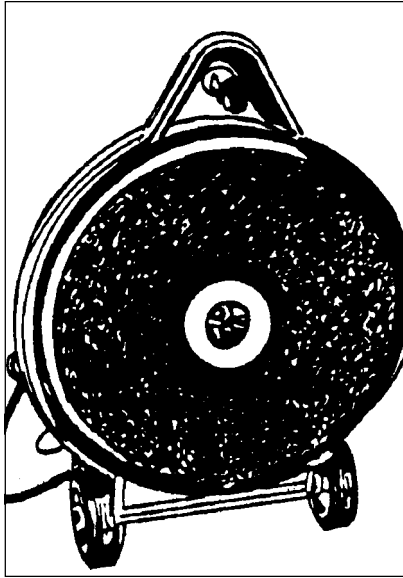

Figure 6
9. Tilt the machine on its back so that it sits on its rear wheels and rear bumper pads. See figure 6.